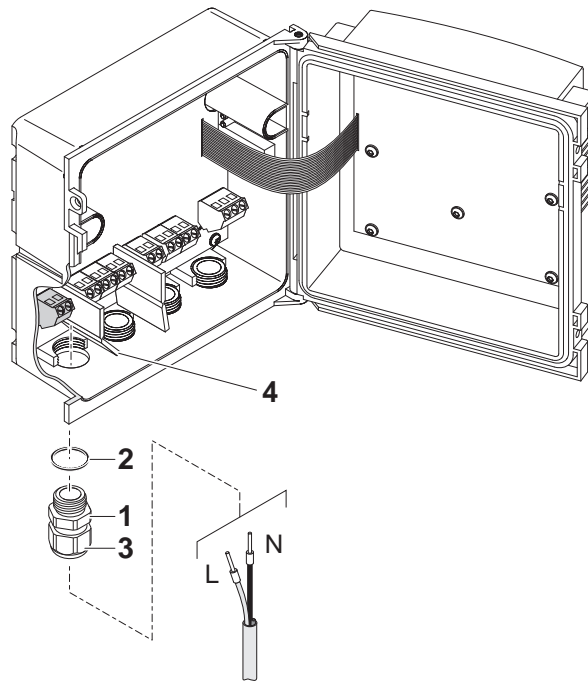

Fig. 3-26 Inserting the supply line.
6 | Screw a cable gland (pos. 1 in Fig. 3-26) with sealing ring (pos. 2) into the enclosure below the power supply connection.
| 10 | Tighten the coupling ring (pos. 3 in Fig. 3-26). |